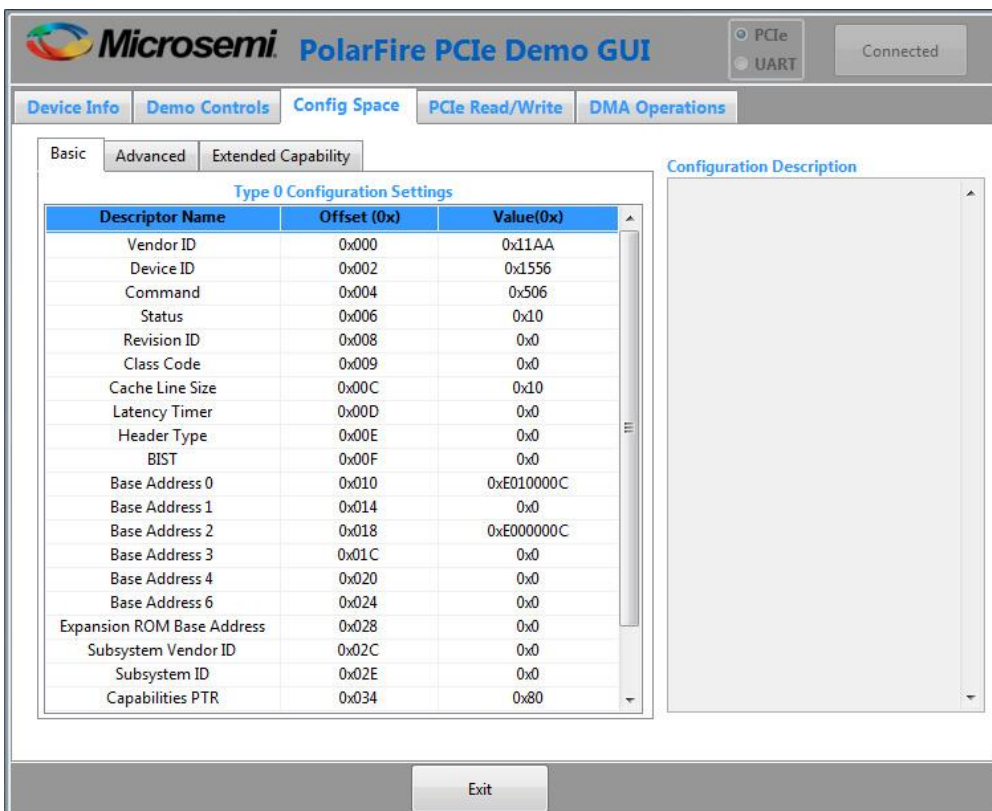

Figure 35: Demo application - Config Space tab
6. Click the **Config Space** tab to view the details about the PCIe configuration space as shown in Figure 35.